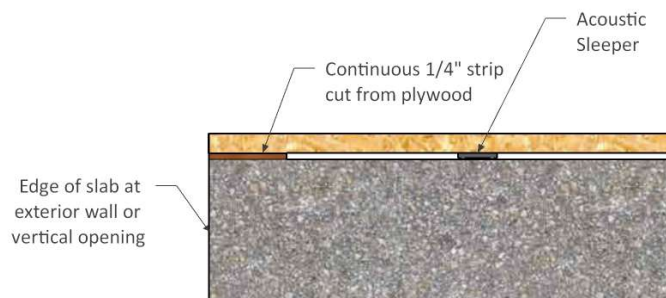

Figure 7: Typical Edge of Slab
- Fig. 7: Typical detail for concrete construction at edge of slabs with continuous plywood strip. For use at exterior walls, stairways, elevators, and shafts.